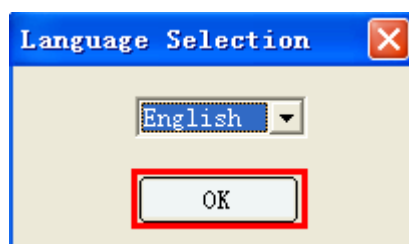

Figure 2-34
3) Click [OK] as shown in Figure 2-34 and software language will take effect after machine rebooting.